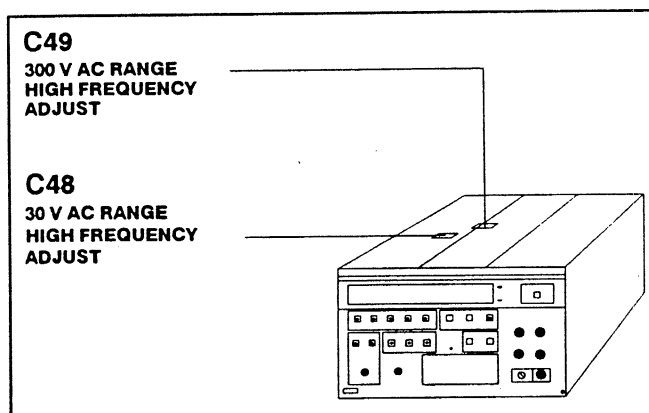

Fig. 3-4. AC Volts High Frequency Adjustments.
n. ADJUST—C49 (Fig. 3-4) for a display reading of 100.000 V $\pm$ 0.250 V.
q. ADJUST—C48 (Fig. 3-4) for a display reading of 10.0000 V $\pm$ 0.0250 V.